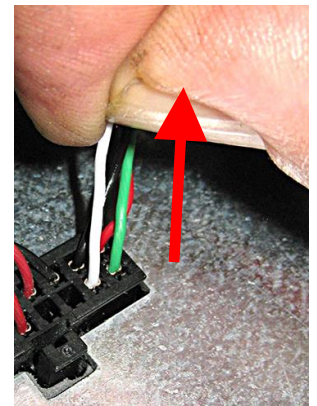

Figure 89
92. Gently tug on all wires to ensure they are locked into the connector (see Figure 89).